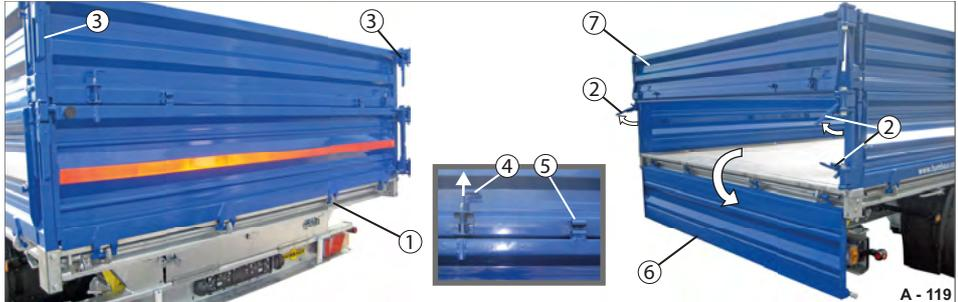

Fig. 120 Rear platform gate/platform gate attachment swinging
- ▶ Release the hinges of the platform gate attachment (Fig. 120/5).
- ▶ Pull both locking bolts (Fig. 120/4) out and lock them.
- ▶ Unfasten the locks of the rear platform gate (Fig. 120/2).
- ▶ Hold the rear platform gate (Fig. 120/6) firmly and fold it down in a slow and controlled manner. The rear platform gate is folded down.
The platform gate attachment (Fig. 115/7) swings on the locks (Fig. 120/3).
- ▶ Fold up the rear platform gate (Fig. 120/6).
- ▶ Fasten the locks (Fig. 120/2) of the rear platform gate.
- ▶ Loosen the two locking bolts (Fig. 120/4).
- ▶ Fasten the hinges (Fig. 120/5) of the platform gate attachment. The rear platform gate and platform gate attachment are secured.
The locks of the platform gate attachment (Fig. 120/3) and the central locking system (Fig. 120/1) must be closed!